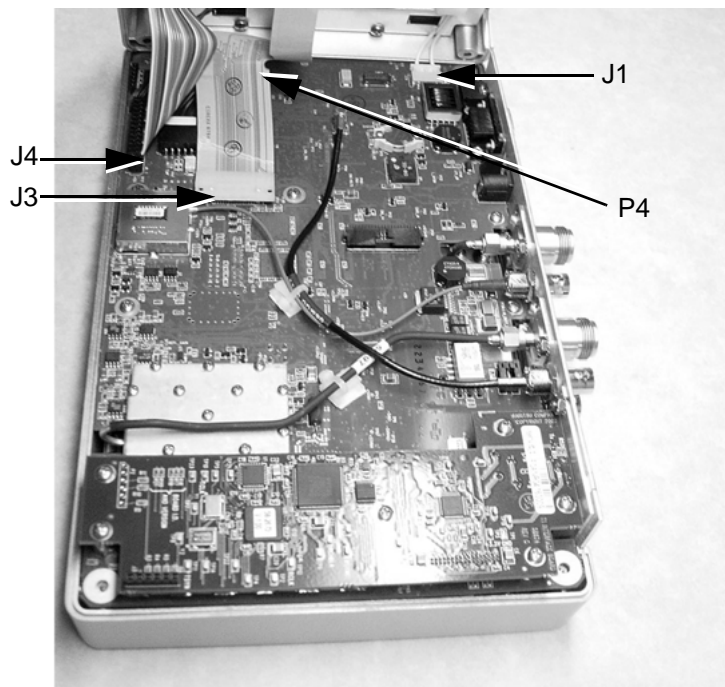

Figure 4-2. Cell Master Front Panel Cable Connections
5. Carefully depress the latch tab and disconnect the LCD display cable from J3 on the main PCB (Figure 4-2).